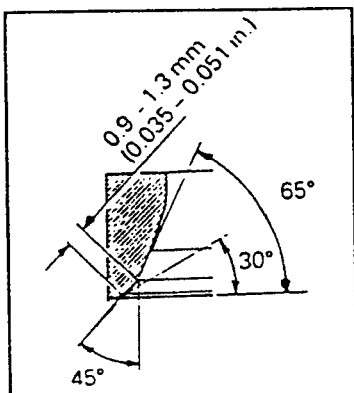

Fig. 15.11. — The valve seat angles of the diesel engine.
- Slacken the bolt securing the balance shaft (also known as silent shaft) timing gear-wheel until it can be removed by hand. Remove the belt tensioner "B" and the second timing belt (Fig. 15.11).
have a width of 0.9 - 1.3 mm (0.035 - 0.05 in.). Fig. 15.11 shows the cutter angles used to re-cut the valve seats and also shows where the seat width is measured.